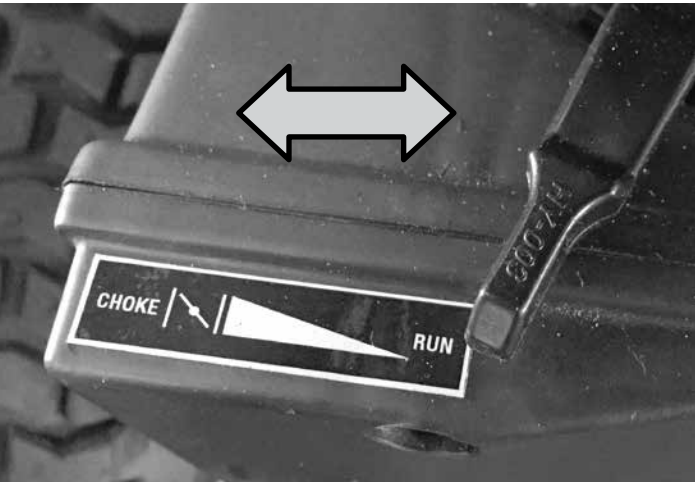

FIGURE 2
- Adjust throttle to the “choke” position. See figure 2.